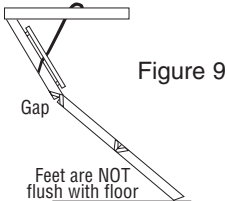

Figure 9
3. If the attic ladder looks like Figure 9, then both of the legs are too long, and the attic ladder is not safe to use.